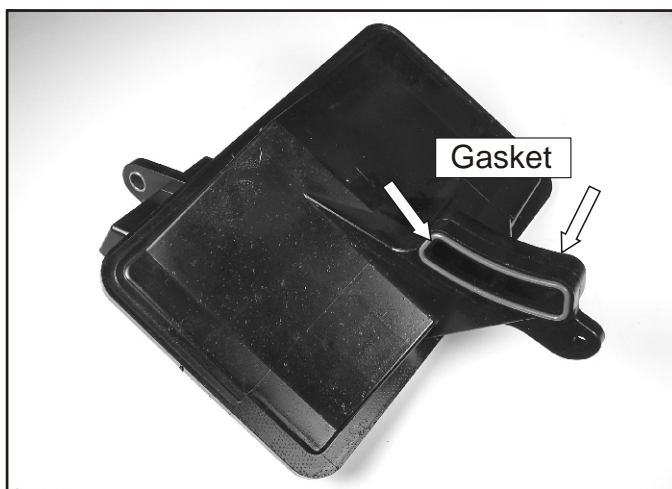

Figure 274
- 198. Install a new gasket on both sides of the filter as shown in Figure 274.